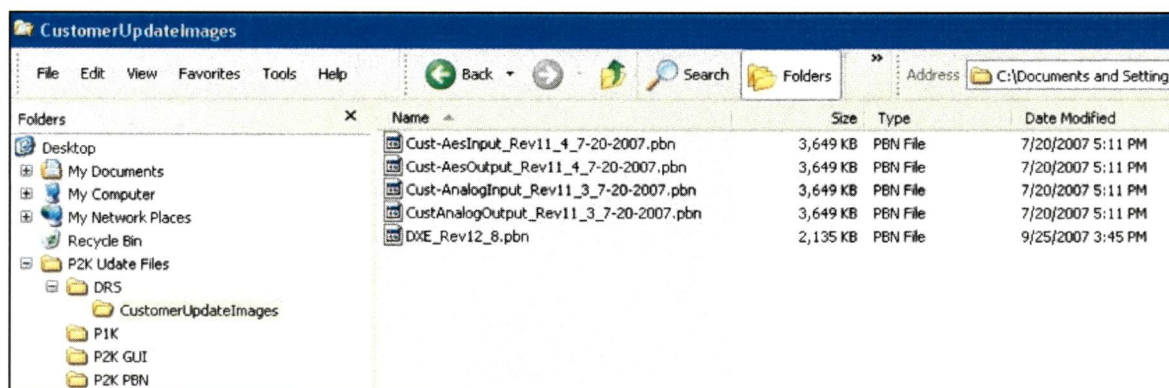

Figure 35. DRS Folder Contents
- ☐ 1. Verify the DRS folder you created in Paragraph 4 contains the sub-folder and files shown in Figure 35.
- In the Module Type column select the entry **DRS I/O V4**, open the Flash Update box and select the appropriate Flash Update file (Figure 35), as shown in Table 3, from the list.